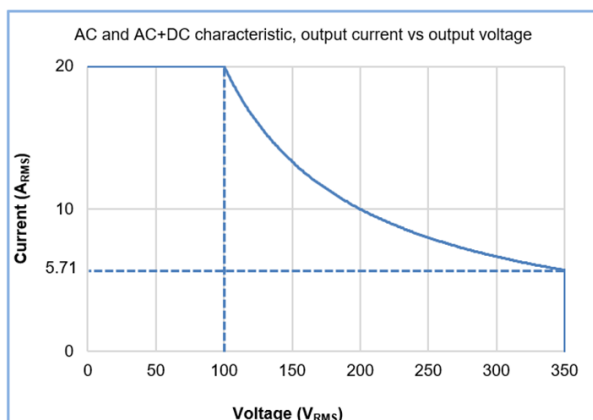
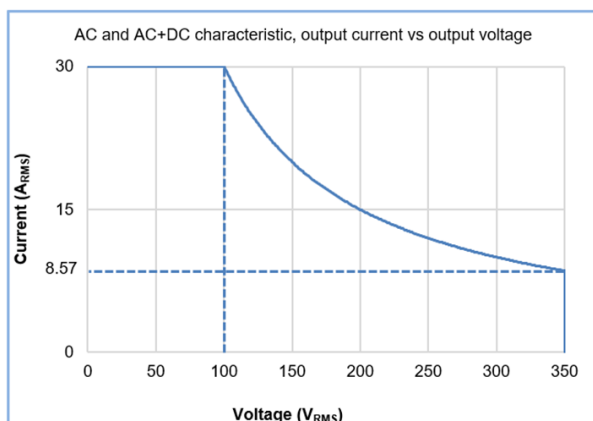
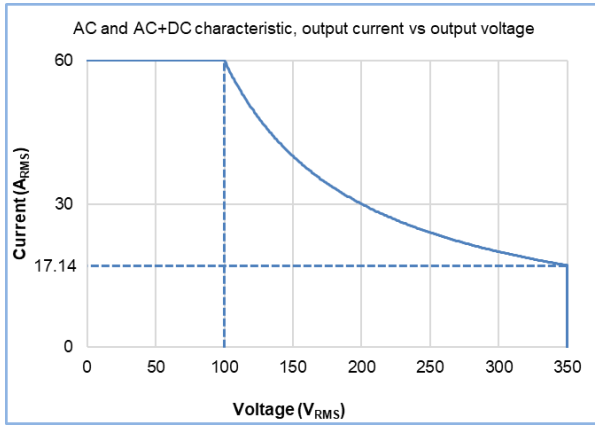
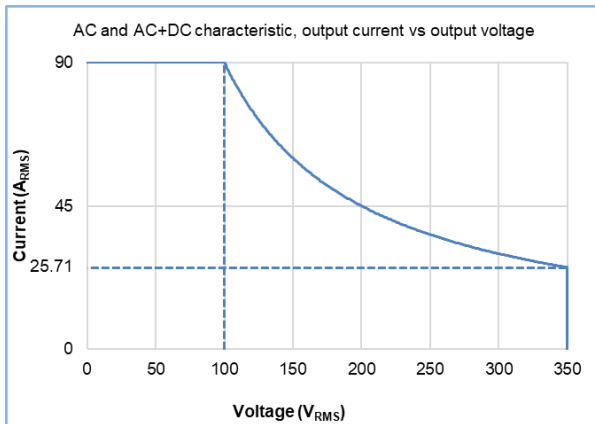

Figure 1: 2kVA AC and AC+DC characteristic
Figure 3: 3kVA AC and AC+DC characteristic (*27)
Figure 5: 6kVA AC and AC+DC characteristic
Figure 7: 9kVA AC and AC+DC characteristic (*28)
- *3: Maximum RMS voltage setting range is associated with the output current setting. When the output current setting is above 5.714A for 2kVA, 8.571A for 3kVA, 17.142A for 6kVA or 25.714A for 9kVA the output voltage setting is limited to rated output power. Refer to Figure 1, Figure 3, Figure 5 or Figure 7.